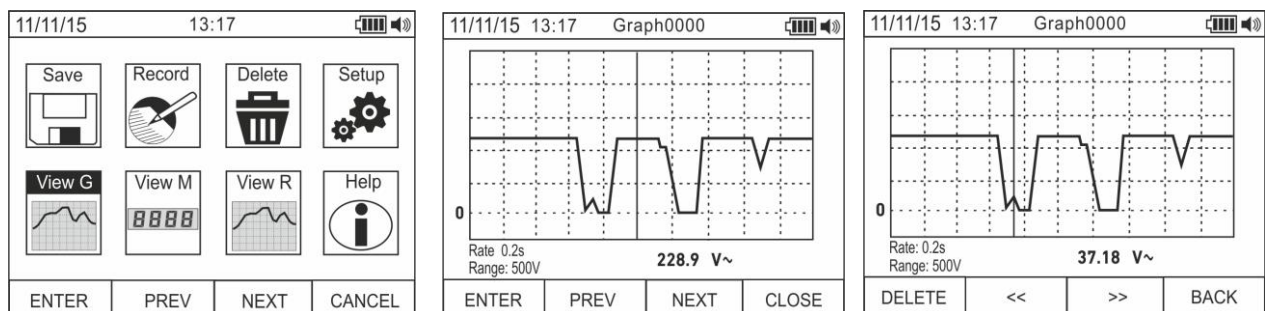

Fig. 18: Recalling graphs to the display
27. Use the **F2** or **F3** key to select symbol "View G" and press the **F1** key (see Fig. 18 – left side).
28. Use the **F2 (PREV)** or **F3 (NEXT)** keys to select the desired graph among the ones saved in the instrument's memory and press key **F1 (ENTER)** to open the graph (see Fig. 18 – central part).
29. Use the **F2 (<<)** or **F3 (>>)** keys to move the cursor within the graph in the two directions, observing the corresponding value at the bottom of the display (see Fig. 18 – right side).